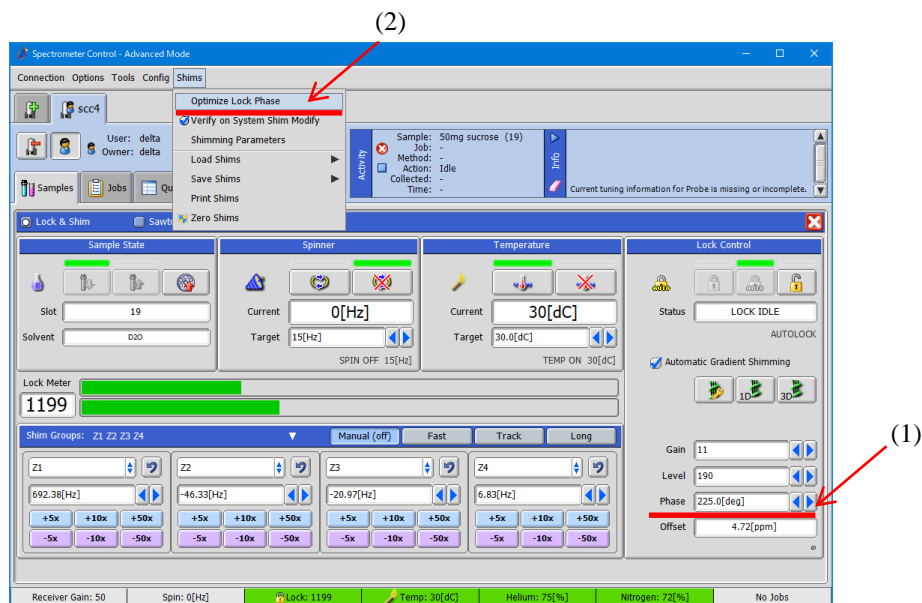

Fig. 3: Interactive panel of NMR software Delta
To adjust lock phase, either adjust lock phase manually while lock is on (1), or use the automatic lock phase optimization (2) as shown in Fig. 3. It is recommended to check and adjust lock phase after adjusting resolution of proton spectrum and tuning probe.